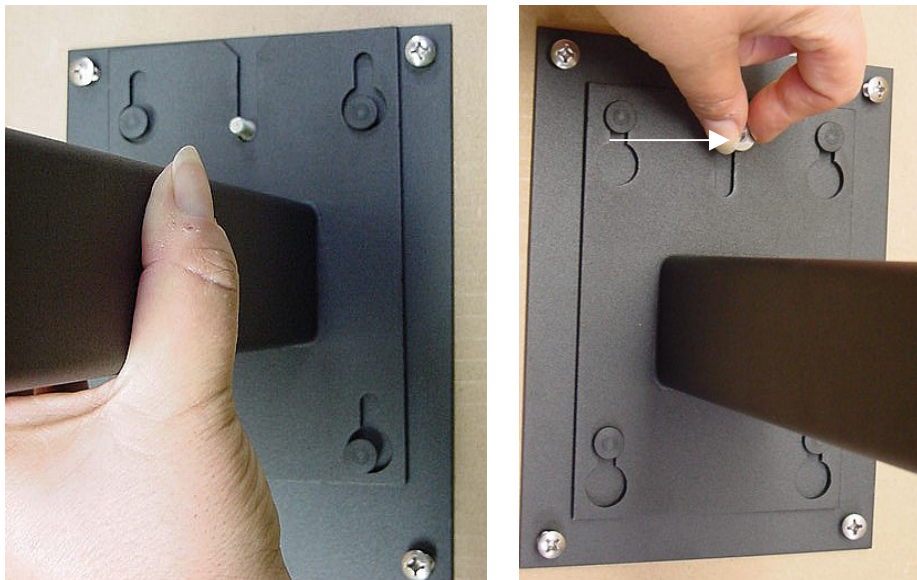

Figure 9. Attach the assembly to the wall mounting plate.
5. Attach the assembly to the mounting plate, with the help of an assistant. (See figure 9.)
- b. Tighten the metric thumb nut (M6) to secure bracket to wall plate (see arrow, Figure 9).